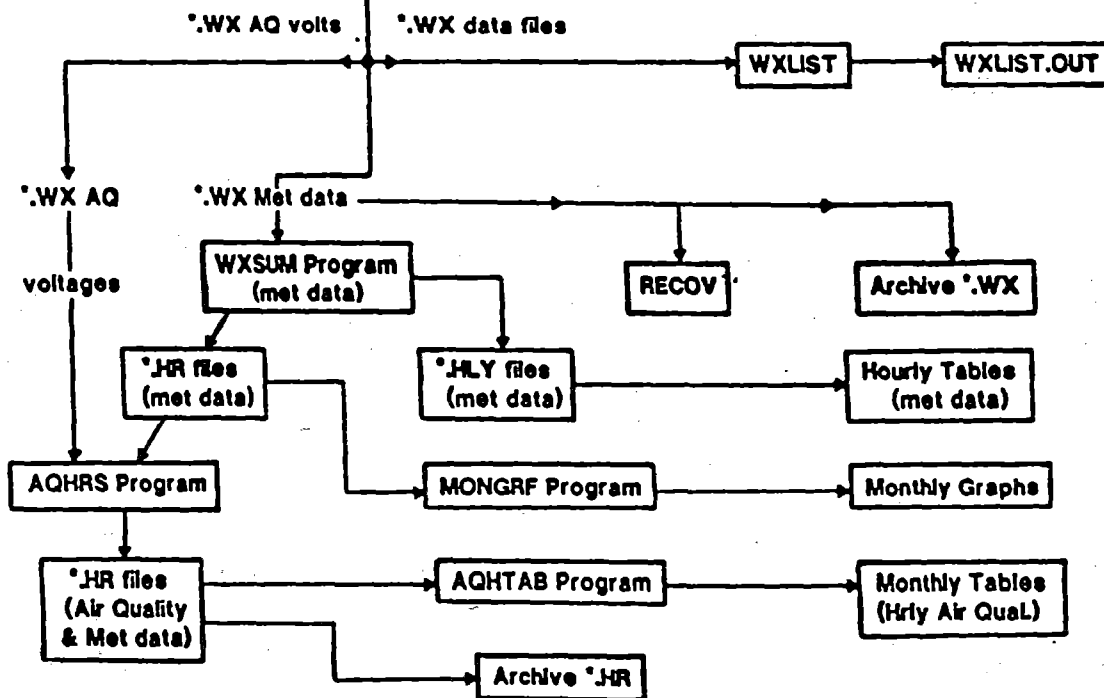

Figure VI-1. CHAWS data train and software flow chart.
Data from the raw signals output by the meteorological sensors and air-quality analyzers are converted by the computer to valid hourly averages of measured parameters. The method for this conversion is displayed in the flowchart in Figure VI-1 and discussed below.
The data-processing software flowchart is illustrated in Figure VI-1, and the major programs are listed in Table VI-1. The first series of programs runs continuously in a real-time mode and handles the gathering of immediate (short-term) data. These programs are run by using either the LOGIT or the GRAPHIT batch files (depending on whether or not a graphic display is desired). The second series of programs averages and handles long-term data (hourly and longer averages) and is run when needed. These programs are started manually, but most are of the "turnkey" variety and require little input. The programs average the short-term data into hourly averages and determine the primary and secondary maxima and means for longer periods. Other manually operated programs that appear to branch off in the figure are for quality assurance (QA) and data-recovery analysis. They are not required for data reduction, but are recommended for QA.
A number of different storage files are used to store raw, short-term edited, and hourly average values for use in the data-processing and presentation software. These files are listed in Table VI-2. Each file in the table appears in its place in the data train shown in Figure VI-1. Data stored in RAWDAT.DAT and the *.WX files
As is illustrated in Figure VI-1, there is a HANDAR 540A Data-Collection Platform (DCP) at each station. This platform collects voltages, pulses, or other signals from each sensor. It includes an instruction set that translates the meteorological sensor voltages to meteorological units. It then sends these ASCII values to the HANDAR Base Station via the radiotelemetry system discussed in Chapter IV.
Note from Figure VI-1 that ASCII data blocks are fed directly from each station's signal-processing software to the HANDAR 542 Radio Base Station via RF link. The purpose of `BASE.EXE` is to collect these ASCII data blocks and store them as daily files (`RAWDAT.DAT`) containing unedited 5- and 15-minute average parameter values. Meanwhile, it also displays them on the Alloy terminal screen as they are collected. The `BASE.EXE` program can also be used to reprogram the HANDAR 540A DCPs.